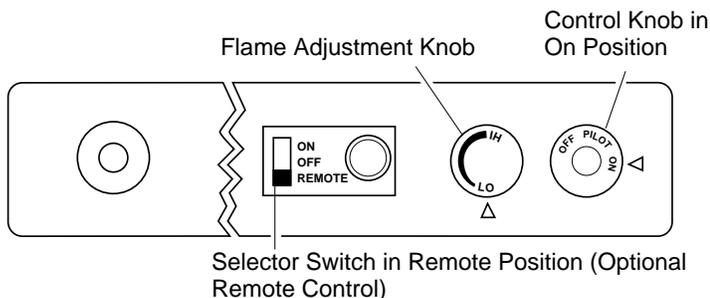

Figure 22 - Setting the Selector Switch, Control Knob, and Flame Adjustment Knob for Remote Operation
1. After lighting, let pilot flame burn for about one minute. Turn control knob to ON position. Adjust flame adjustment knob anywhere between HI and LO. Slide the selector switch to the REMOTE position (see Figure 22). **Note:** The burner may light if hand-held remote ON button was on when selector switch was last turned off. You can now turn the burner on and off with the hand-held remote control unit.
2b. Press the AUTO/ON/OFF button on the hand-held remote control (see Figure 22, page 17). The lights to the left of the button will show AUTO, ON, or OFF.